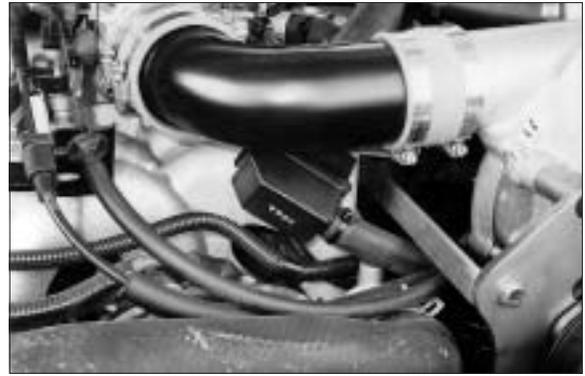

Fig. 11-a
- * A. Attach the supplied 3/4" x 90° rubber elbow to the idle control motor near the throttle body. (See Fig. 11-a.) Insert the factory idle control resonator into the elbow and locate underneath the discharge tube.